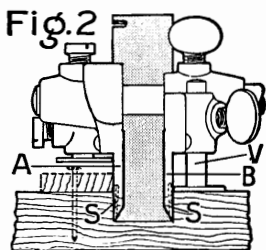

Fig. 2
**Fig. 2—DADO**—Move Sliding Section (B) up to cutter until its Spur (S) is directly in line with the left edge. Attach extra Gauge (V) to Sliding Section to gauge depth. A batten is used for gauging position of dado.